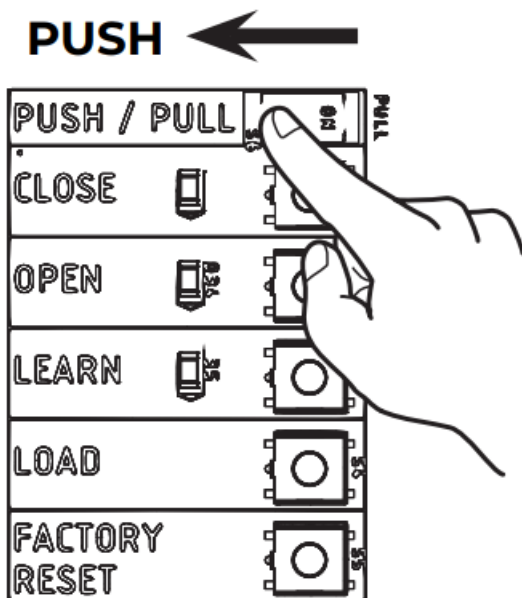
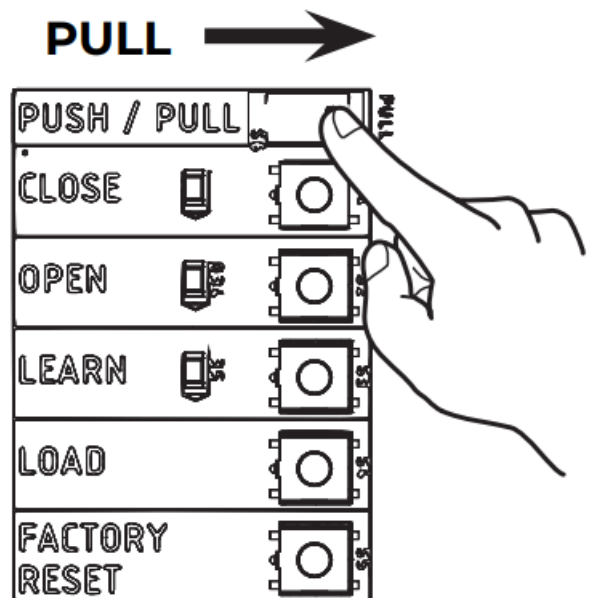

Figure 4
Figure 5
1. Depending on your application, select PUSH or PULL by moving toggle switch LEFT or RIGHT. (Figure 4 and Figure 5)